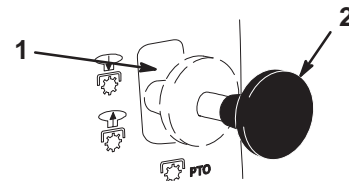

Figure 7
3. Shift the blade control (PTO) lever to Disengaged (Fig. 7).